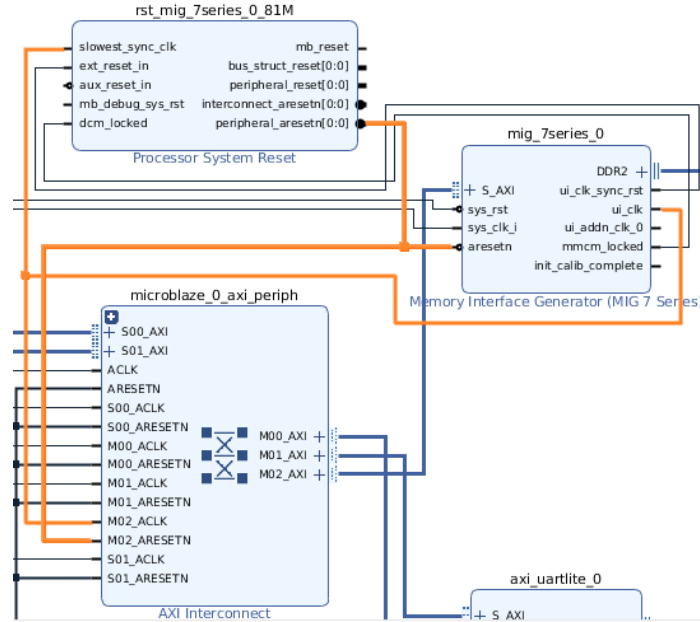

Figure 14: ACLK and ARESETN Wiring for AXI Interconnect's M02 Connection to MIG
*ARESETN* signal used by the *AXI Interconnect* to communicate with the MIG is connected to the *peripheral\_aresetn* signal on the newly-generated *rst\_mig\_7series* block (see Figure 14 below for correct connections). Finally, select the **DDR2** bus on the memory controller, **Right Click** and select **Make External**, to propagate these signals to the pins of the FPGA.